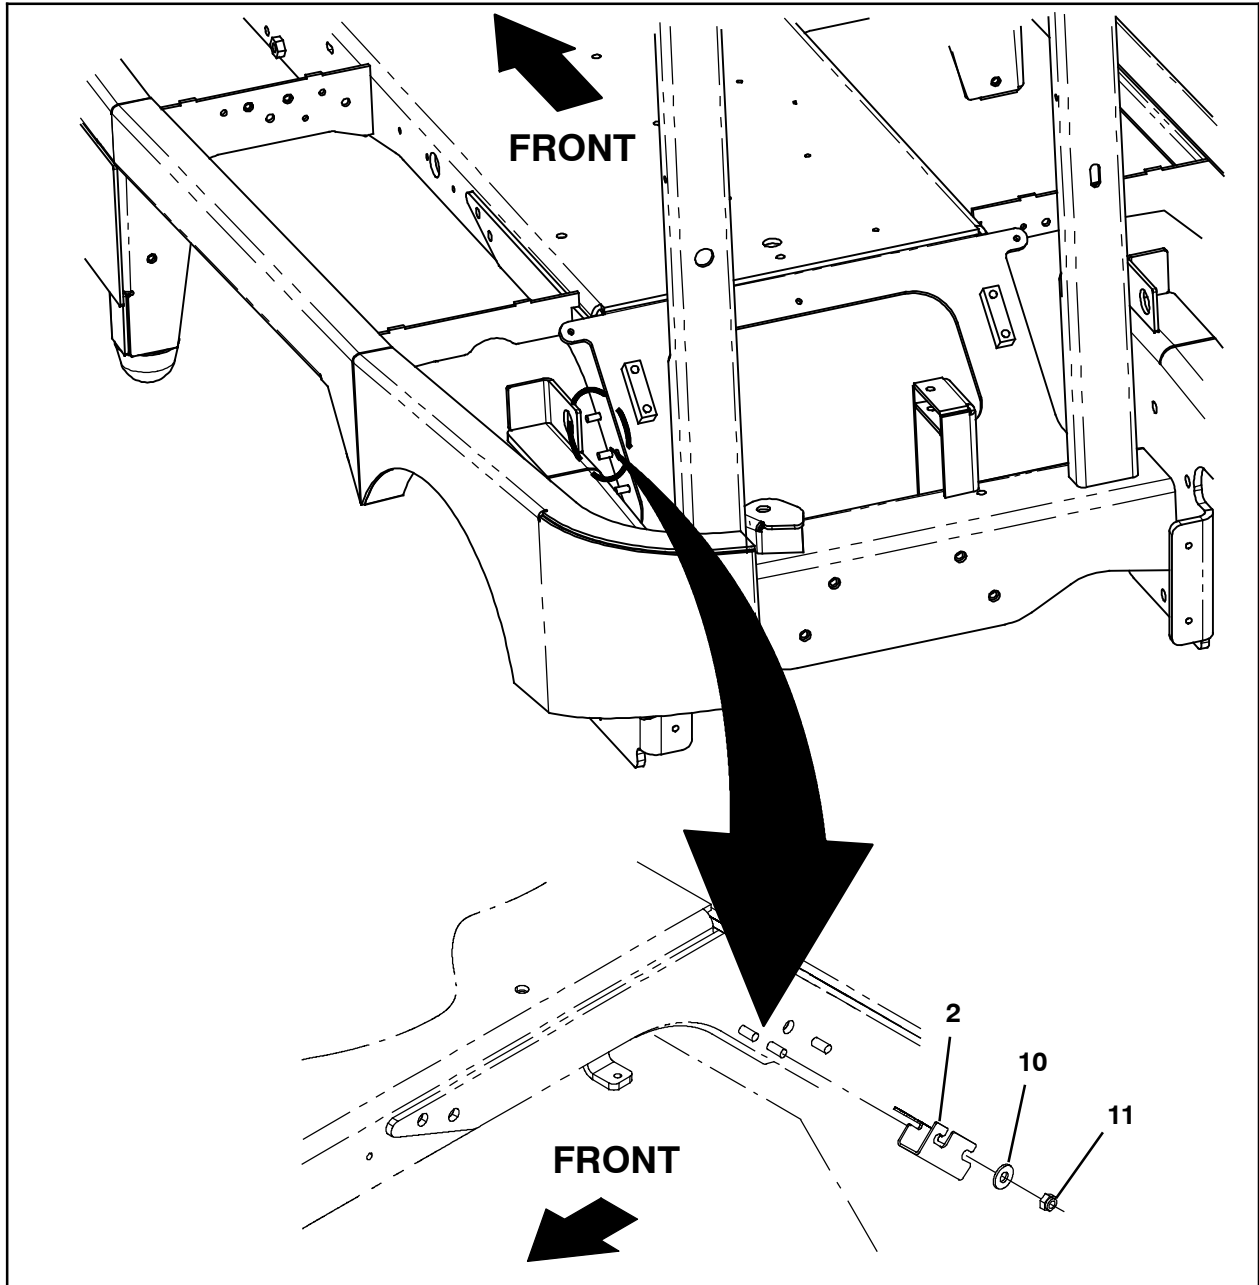

FIG. 3
18. Use two M8 hex nuts (11) and two flat washers (10) to install the auto-fill bracket (2) onto the frame of the machine. (Fig. 3)